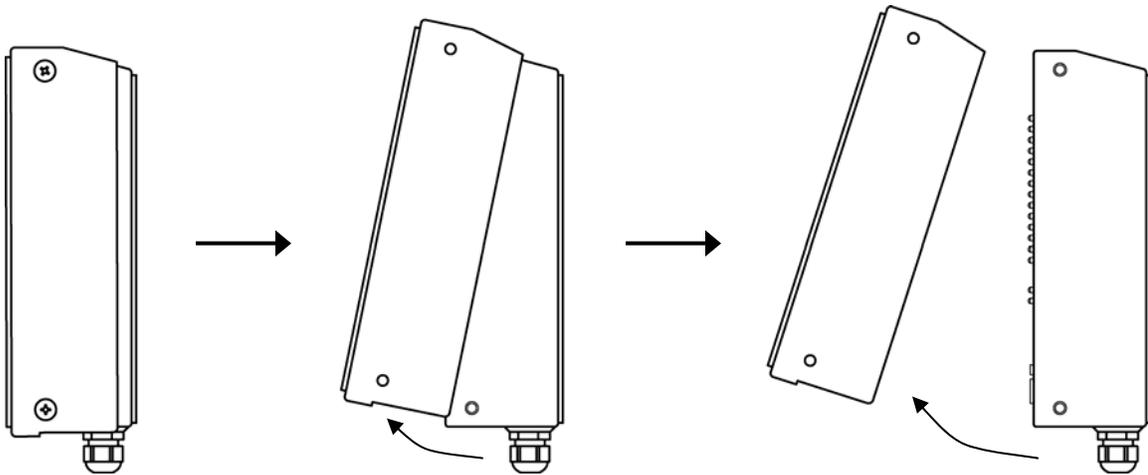

Fig. 4: Side View Opening
3. Slowly, guide the Front Cover off of the Main Enclosure (See Fig. 4).